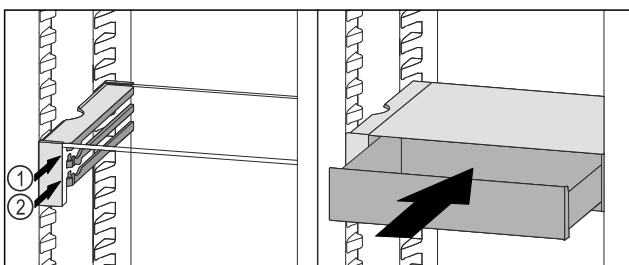

Fig. 110
- ▶ Place the VarioSafe drawer behind the stoppers on desired rib Fig. 110 (1) or Fig. 110 (2).